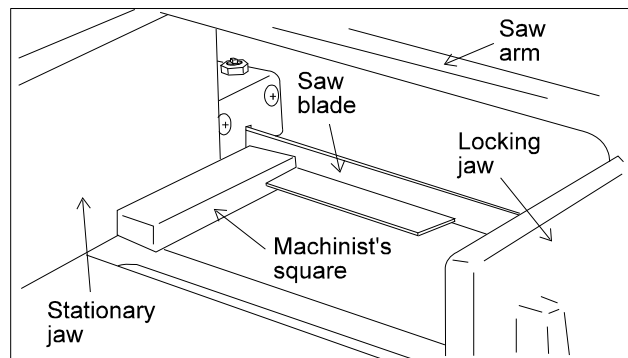

Figure 2: Setting the stationary jaw at right angles to the saw blade.
2. With the saw arm and blade in horizontal position, place a machinist's square against the blade and stationary vise jaw. (See *Figure 2*.)